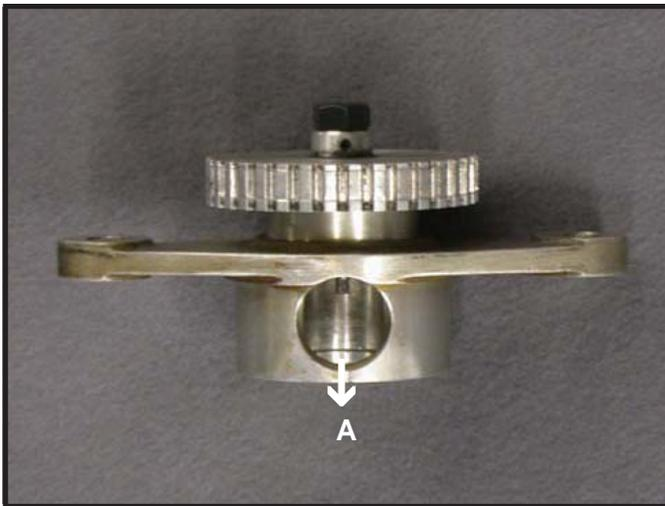

Figure 3.6.2
The resolver is removed. Now the shaft has to be replaced for the new encoder. Remove the nut on the end of the shaft. Loosen the set screw and press the shaft out of the pulley in the (A) direction on Figure 3.6.2. The bearings may stay inside the mounting bracket.